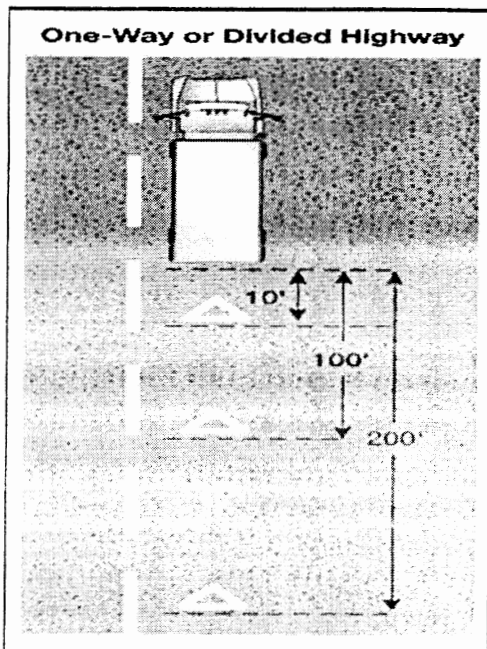

Figure 2.8
- If you must stop on or by a one-way or divided highway, place warning devices (i.e. flares, triangular reflectors, cones, etc.) 10 feet, 100 feet, and 200 feet toward the approaching traffic. *See Figure 2.8*